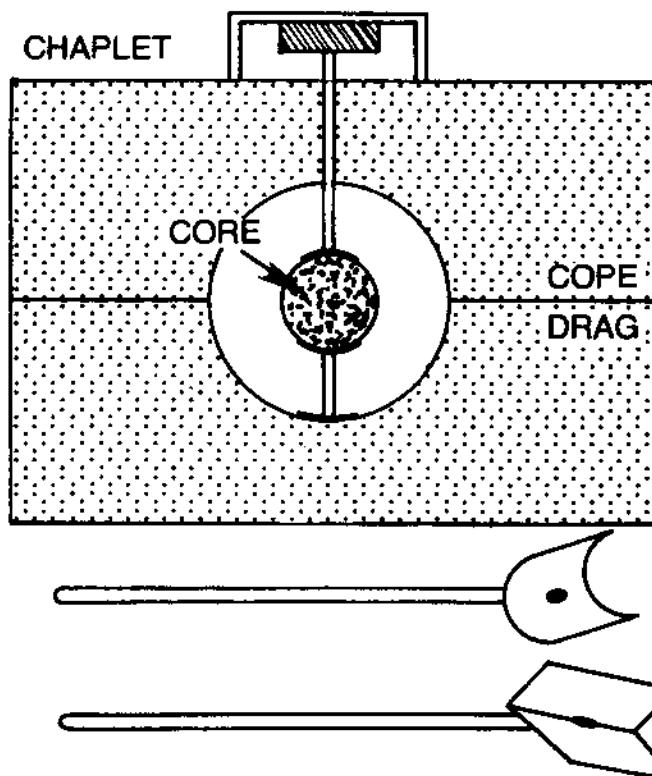

FIGURE F.10
**fitted head chaplets** A stem chaplet in which the head is fitted or shaped to fit a particular shape (on the core) (Fig. F-10).